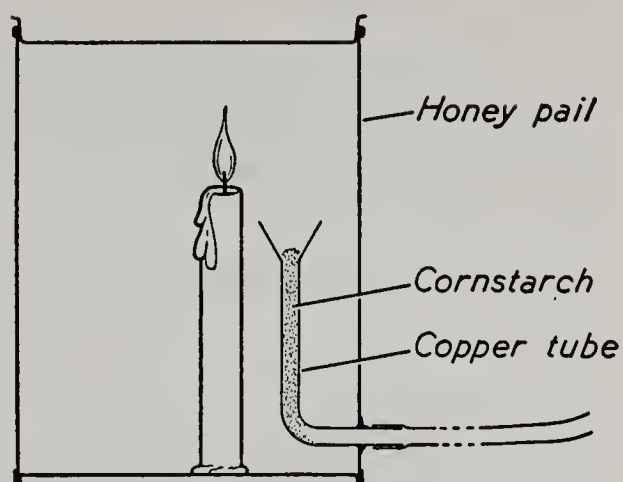

Fig. 25. A dust explosion.
5. (*Demonstration*) Punch a hole in an eight-pound honey pail about one inch from the bottom. Bend a piece of metal tubing about five inches long to form a right angle, and solder a small metal funnel on one end. Push the metal tubing through the hole in the pail and solder it in position as shown in Fig. 25. Place a candle so that the